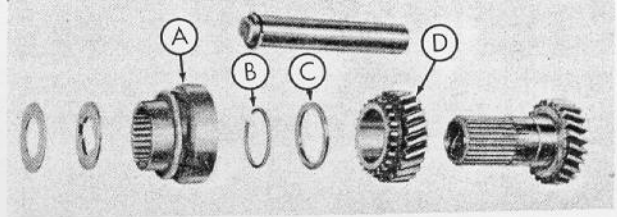

Fig. 8
- a. Remove the coupling (A-Figure 8).
- b. Remove the snap ring (B-Figure 8).
- c. Remove the thrust washer (C-Figure 8).
- d. Remove the driver gear (D-Figure 8).